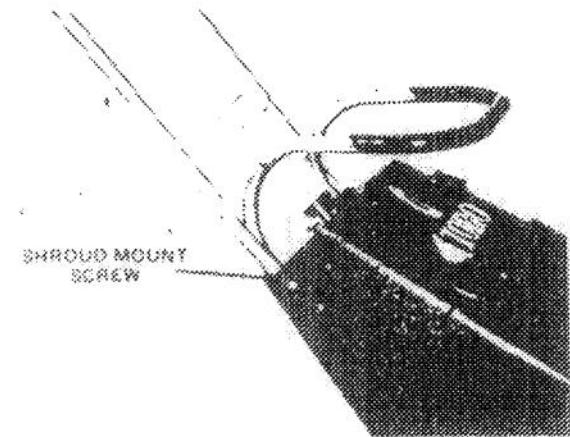

Figure 21
2. Remove cap from snowblower fuel tank (Fig. 21).
3. Remove two self tapping screws holding sides of upper shroud; then remove shroud (Fig. 21). Reinstall cap on snowblower fuel tank.
8. Remove cap from snowthrower fuel tank and set upper shroud in place (Fig. 21). Reinstall cap on fuel tank.
10. Insert front panel into grooves of upper shroud. Secure sides of upper shroud with two  $\frac{1}{2}$  inch (12.7 mm) long self tapping screws (Fig. 21).